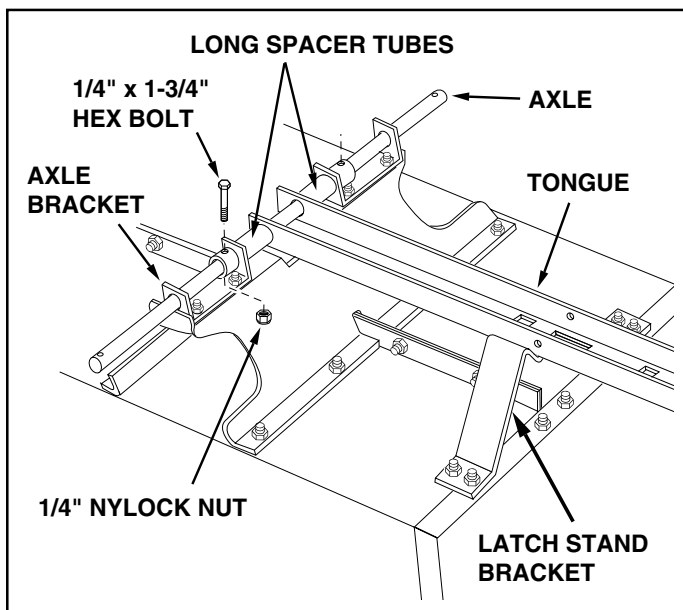

FIGURE 9
17. Place a long spacer tube on each side of the tongue and assemble the axle through the wheel support, the two spacer tubes and the tongue. Secure the axle using two 1/4" x 1-3/4" hex bolts and 1/4" nylock nuts. **Tighten.** See figure 9.